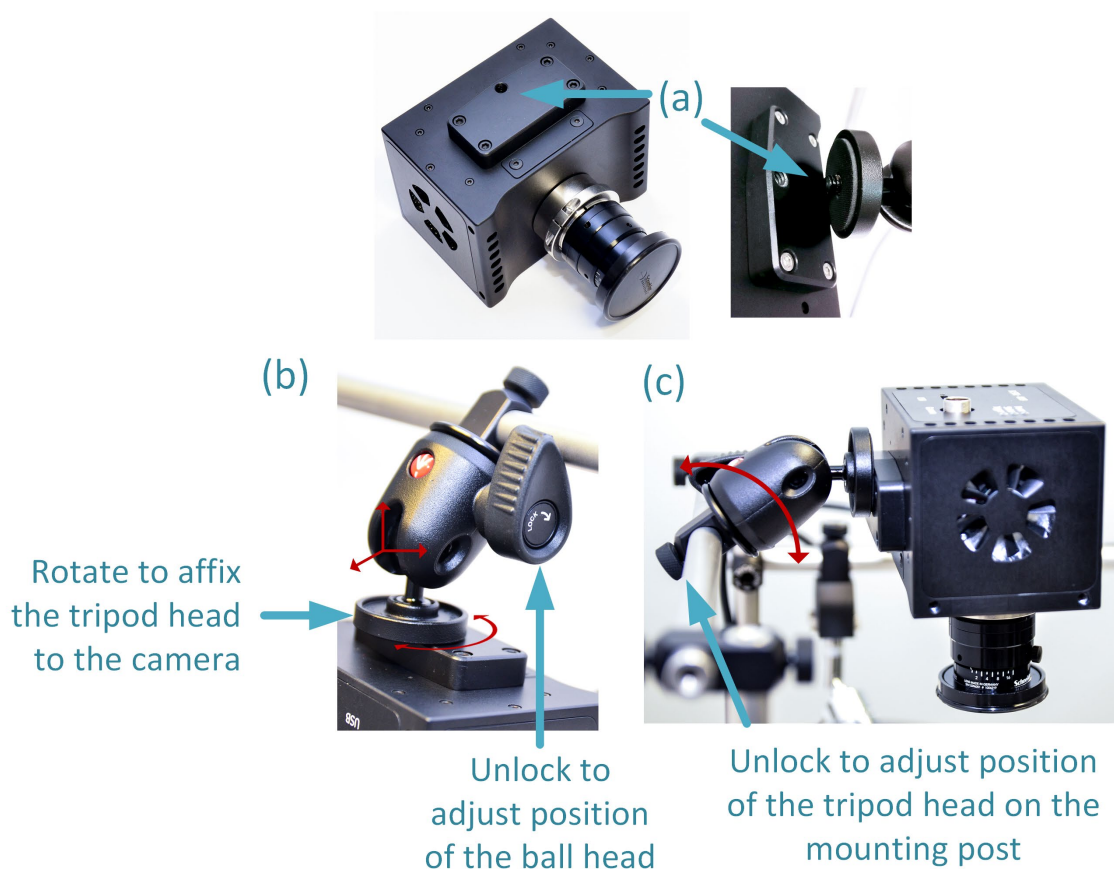

Figure 37 Mounting of snapscan camera on to the tripod head (Step 5.2)
Step 5.3 Mount the snapscan camera on the tripod head (Figure 37)